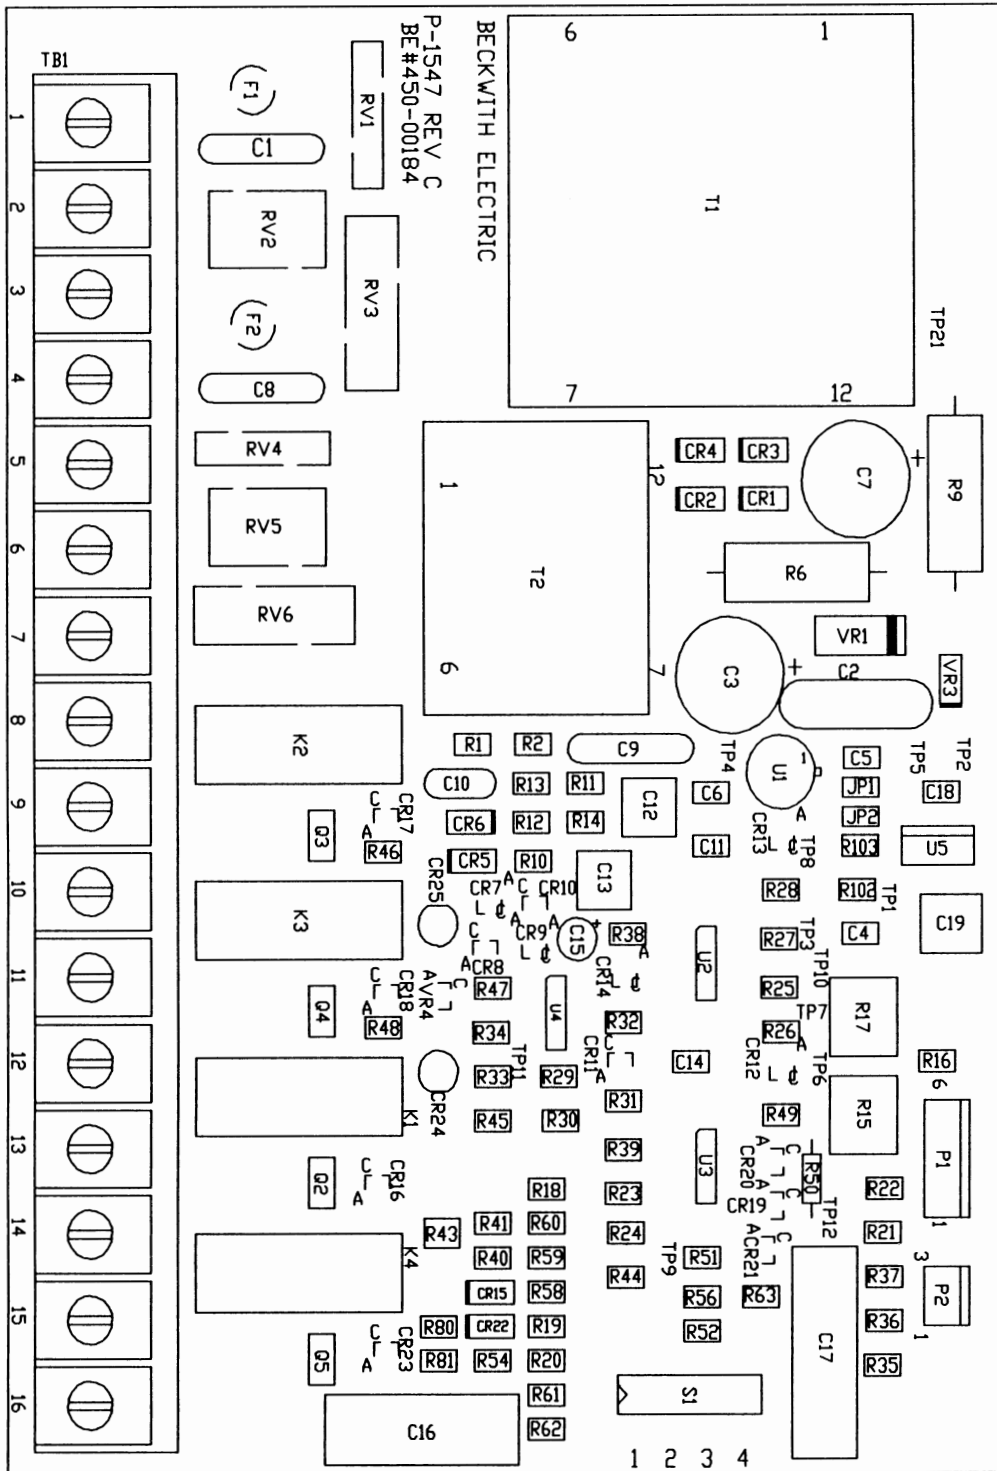

Figure 11 Component Location
3. Readings are made with the reference at Test Point 3 (TP3), as shown in Figure 11, Component Location.